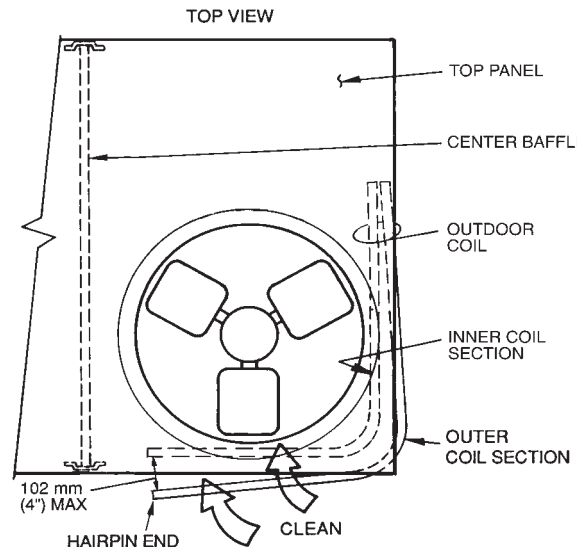

Fig. 47 – Separating Coil Sections
4. Remove device holding coil sections together at return end of condenser coil. Carefully separate the outer coil section 3 to 4 in. from the inner coil section. (See Fig. 47.)